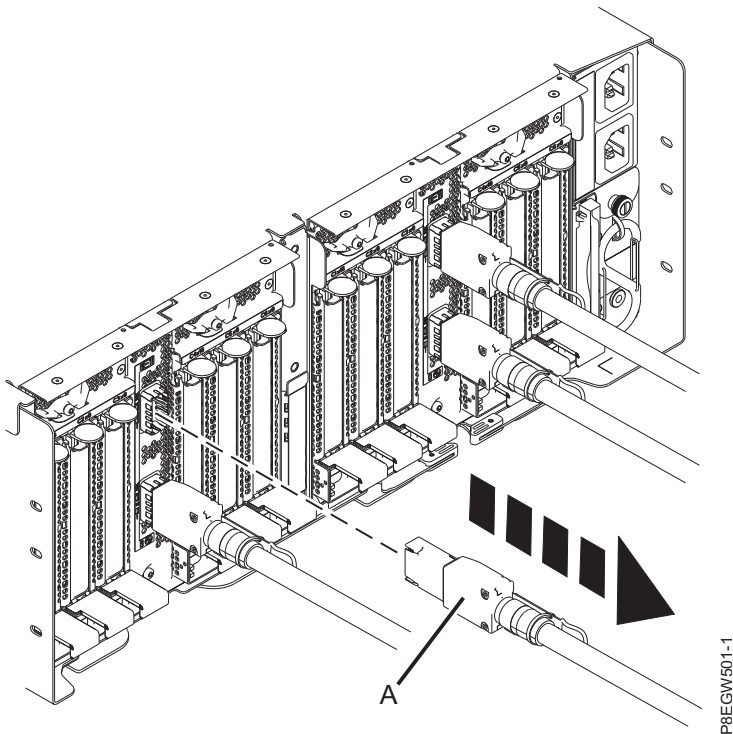

Figure 4. Removing the expansion drawer cable from the EMX0 PCIe3 expansion drawer
3. Holding the pull-tab, pull out the other end of the expansion drawer cable (A) from the I/O module port on the EMX0 PCIe3 expansion drawer, as shown in Figure 4.